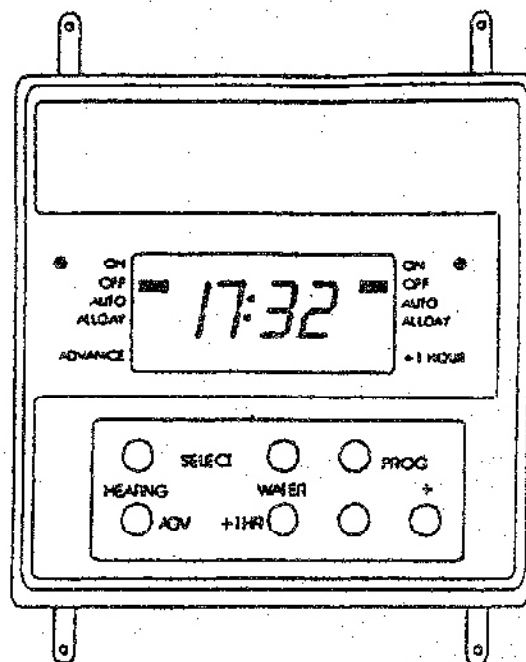

Fig. 5 Programmer with programming cover removed
7. To set on/off times refer to Setting event times Fig. 5